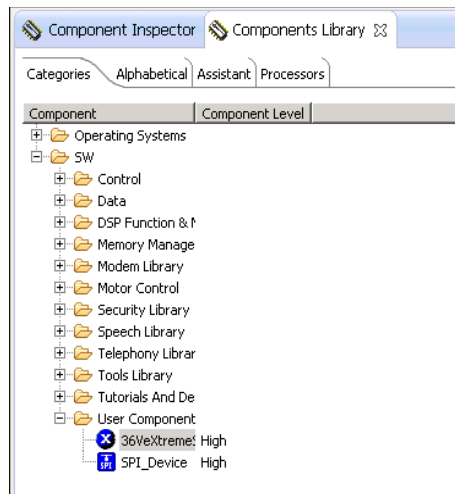

Figure 9. Example Project Folder Component Imported Window
4. Now the SPI\_Devicexxxx.PEupd and 36VeXtremeSwitchxxxx.PEupd bean files are two Processor Expert beans for TWR-MC36XSDEVB and ready for compiling or imported to projects (see Figure 9).